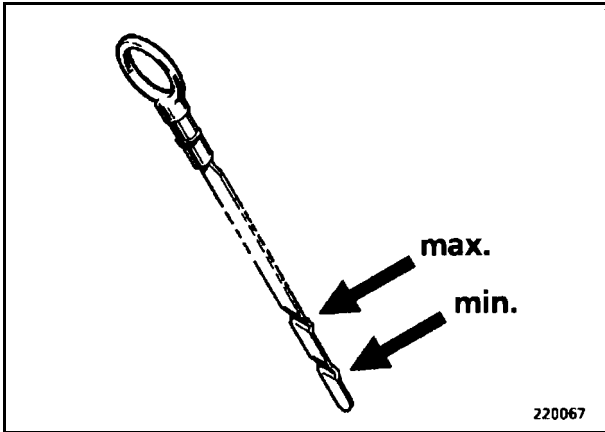
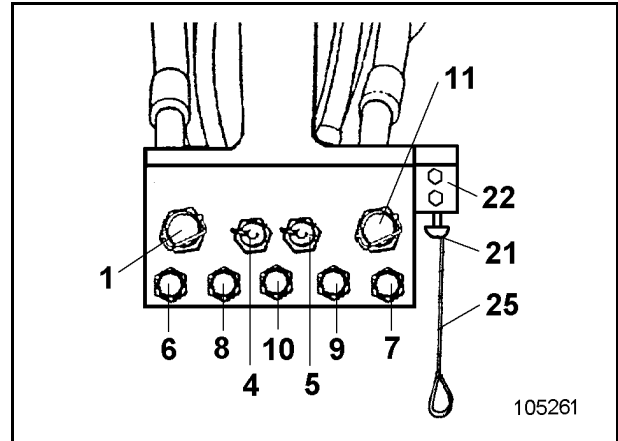

Fig. 3-14:
Fig. 3-16:
- Draw out dipstick a second time. The oil level should now lie between the marks (arrows, Fig. 3-14:). If the oil level is at the "min" mark or below, top up with engine oil through filler tube (2, Fig. 3-16:).
- Draw out dipstick a second time. The oil level should lie at the mark. If the oil level is below, the engine oil is filled in from the service station (Fig. 3-16:) through
- express coupling (6) for the lefthand engine oil reservoir
- express coupling (7) for the righthand engine oil reservoir